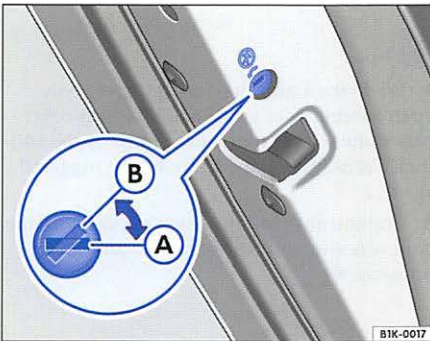
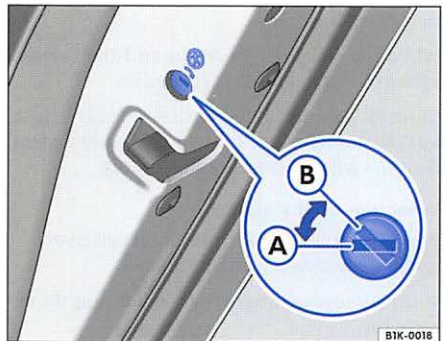

Fig. 17 20 Child safety lock in the rear left door: A – switched off, B – switched on
Fig. 18 Child safety lock in the rear right door: A – switched off, B – switched on
- Use a vehicle key to turn the slot in the door to the position shown in ⇒ **fig. 17** (B) / ⇒ **fig. 18** (B).